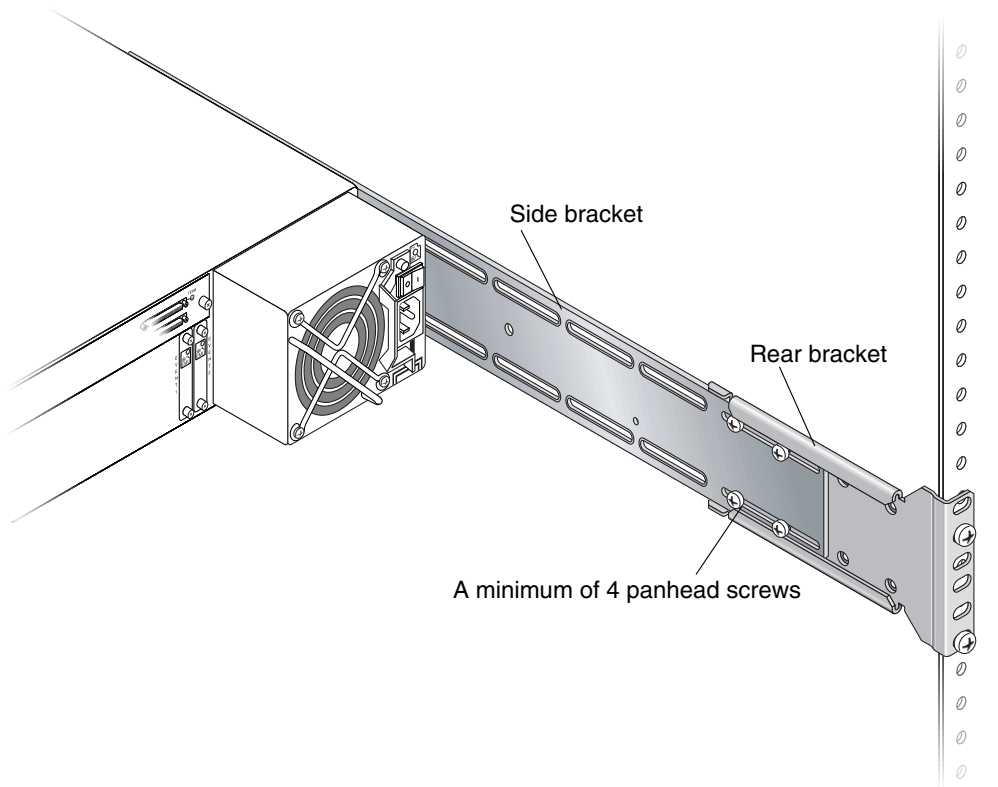

FIGURE 2-7 Rear and Side Brackets Assembled
8. Attach each side bracket to a rear bracket (see FIGURE 2-7):
8. Attach each side bracket to a middle bracket (see FIGURE 2-7):